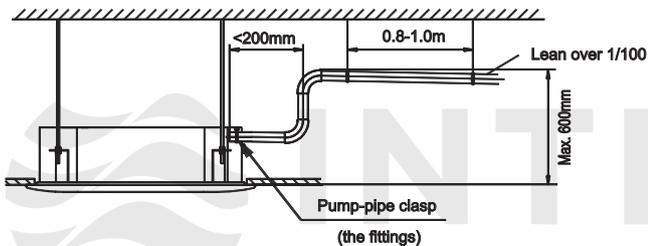

Fig.6-2
- In case the drainpipe outlet is higher than pumping connective of the main body, the drainpipe must be arranged upwards vertically by using connective assembly of the water outlet for vertical bending, and the height of the drainpipe shall set to the defrosting pan surface no more than 1000mm (four-way cassette) or 600mm (slim four-way cassette), otherwise, too much backflow while shutdown would leads to overflow (Refer to Fig.6-2).